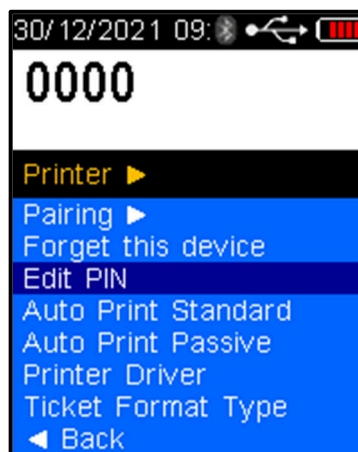

Figure 35 - Edit PIN
- Use the down arrow and test key to select Edit PIN (Refer to Figure 35).